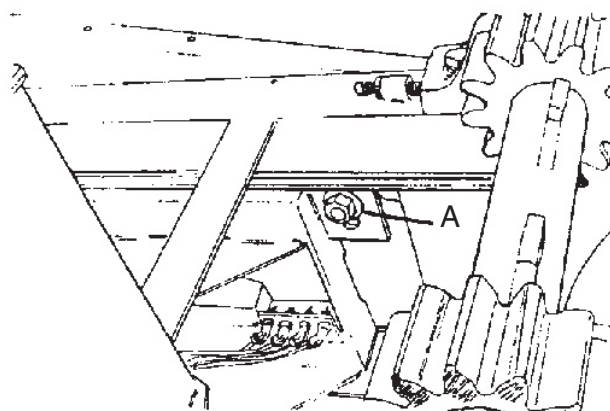

Figure 123. Top Plunger Roller Nut
To adjust the up/down play, be sure the top plunger roller is up to the top rail angle. Adjust the roller by loosening nut (A). Move the roller and shaft up or down as needed (see Figure 123). Lock it with nut (A).